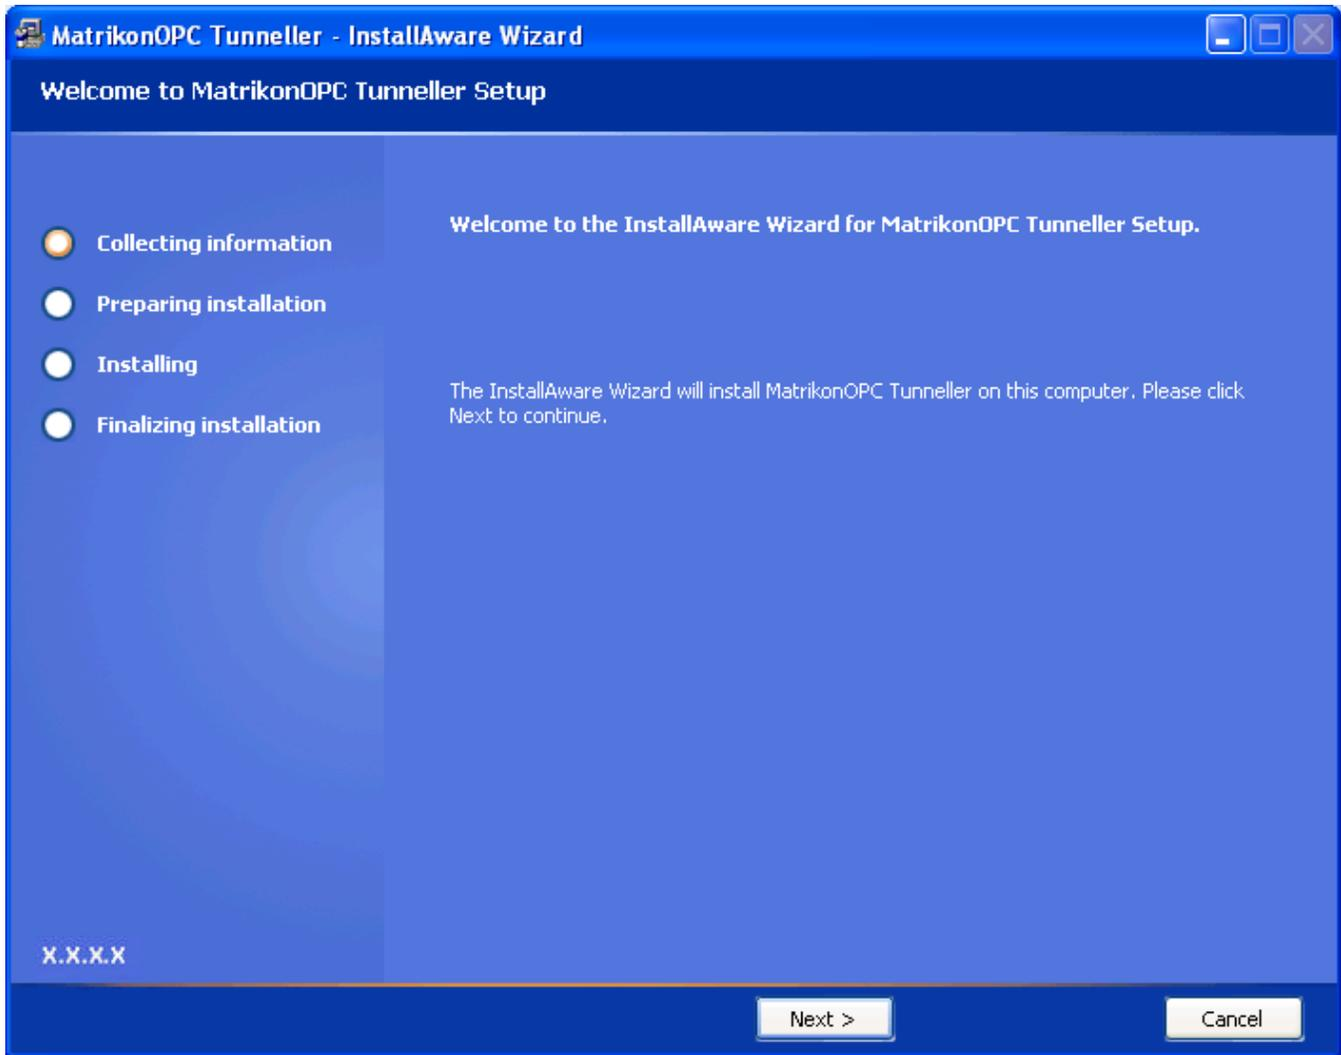

Figure 22 - Welcome to MatrikonOPC Tunneller Setup Screen
2. If the MatrikonOPC **Welcome** screen does not automatically appear, double-click the *MatrikonOPCTunneller.exe* file. The **MatrikonOPC Tunneller – InstallAware Wizard** appears and the **Welcome to MatrikonOPC Tunneller Setup** screen (Figure 22) appears.